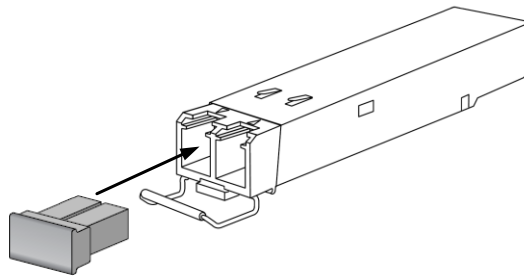

Figure 12 : SFP+ Module with bale clasp open
5. Insert the clean dust covers into the module, as shown in Figure 12.